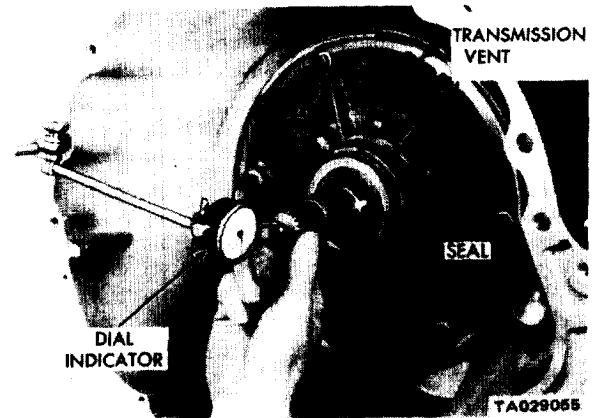

Figure 18-4. Measuring Input Shaft End Play.
(1) Attach a dial indicator to the transmission bell housing with the plunger seated against the end of the input shaft (figure 18-4).